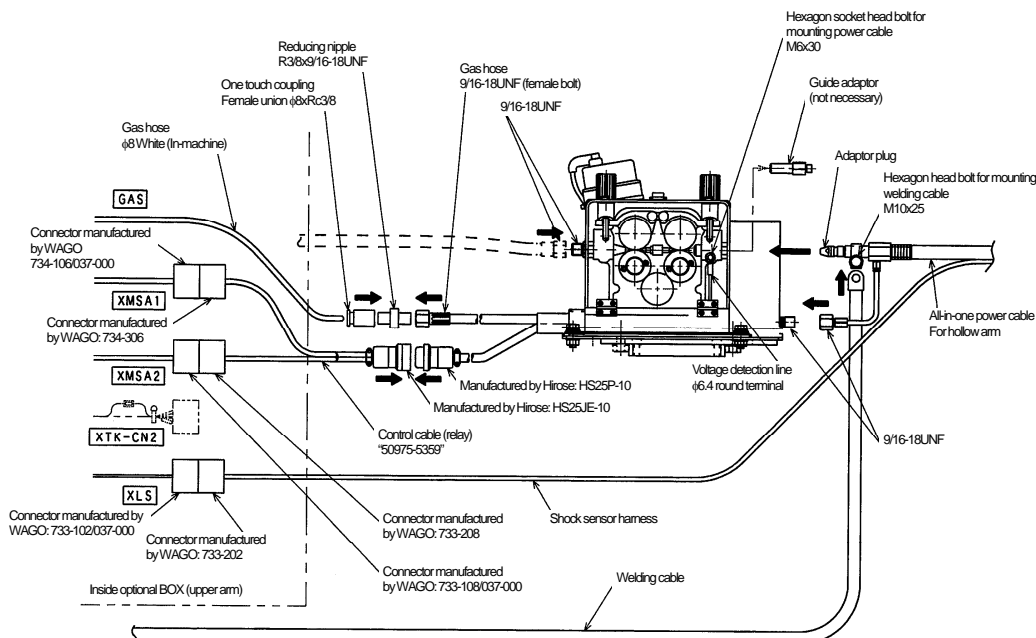

Figure 1.5 Connection of control cable and gas hose
2. Referring to Figure 1.5, connect the connectors (XMSA1, XMSA2) with the cable provided inside the optional BOX and the control cable (relay) (option). In addition, take out the gas hose inside the optional BOX, attach the reducing nipple (option) and one touch coupling (option), and connect them with the gas hose of the wire feeder.